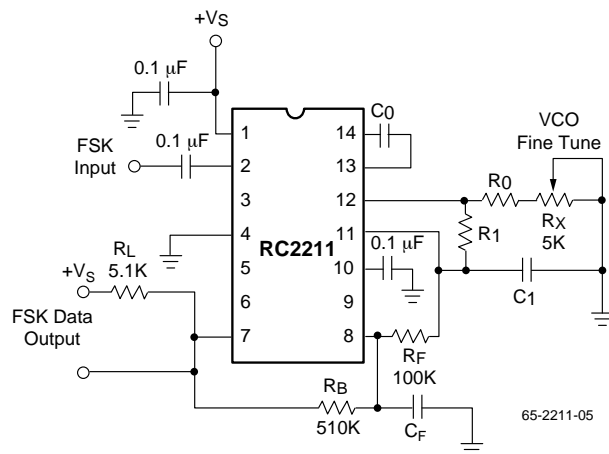

Figure 2. Circuit Connectbn for FSK Decoding
VCO can be fine tuned by connecting a potentiometer, Rx, in series with R0 at pin 12 (see Figure 2).
Figure 2 shows the basic circuit connection for FSK decoding. With reference to Figures 1 and 2, the functions of external components are defined as follows: R0 and C0 set the PLL center frequency, R1 sets the system bandwidth, and C1 sets the loop filter time constant and the loop damping factor. CF and RF form a one pole post-detection filter for the FSK data output. The resistor RB (510 kΩ) from pin 7 to pin 8 introduces positive feedback across FSK comparator to facilitate rapid transition between output logic states.
Table 1. Recommended Component Values for Commonly Used FSK Bands (see Circuit of Figure 2)
The circuit of Figure 2 can be tailored for any FSK decoding application by the choice of five key circuit components: R0, R1, C0, C1 and CF. For a given set of FSK mark and space frequencies, F1 and F2, these parameters can be calculated as follows:
**Note:** All calculated component values except R0 can be rounded off to the nearest standard value, and R0 can be varied to fine-tune center frequency through a series potentiometer, RX (see Figure 2).